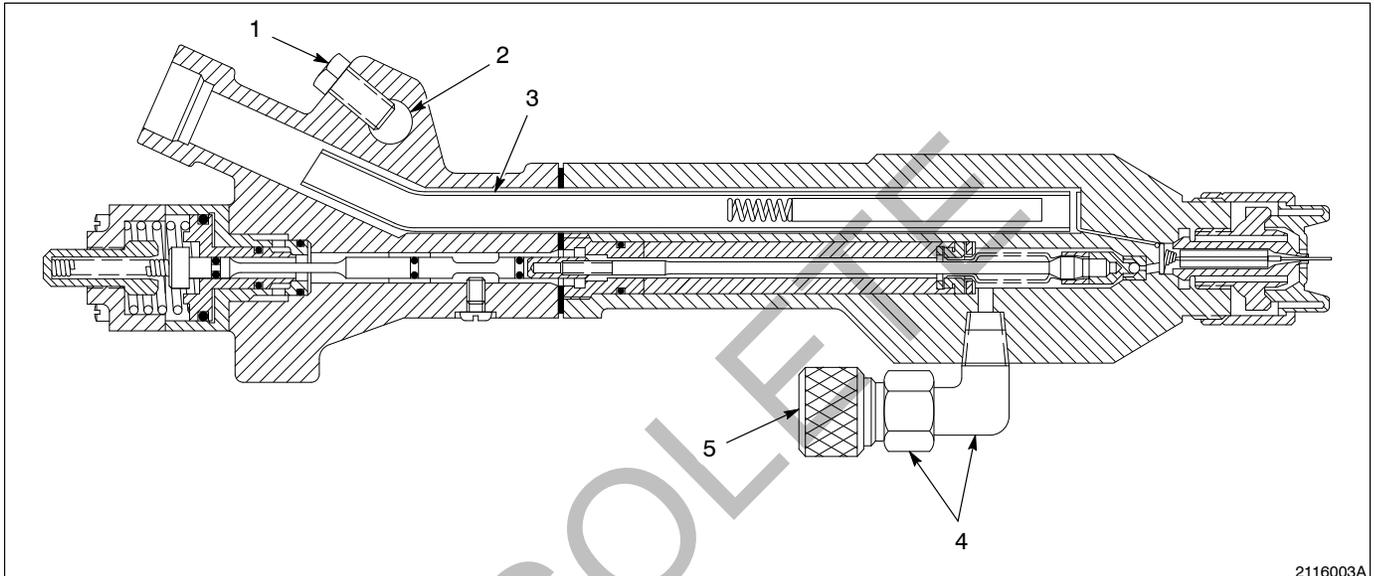

Fig. 4 AN-10 gun mounting and fluid connections
To mount the AN-10 gun, see Figure 4 and use the following steps:
2. See Figure 4. Slowly push the cable into the electrostatic insulating tube (3), which is visible through the cable connector at the end of the AN-10 gun.
To install the fluid fittings, see Figure 4 and use the following steps: